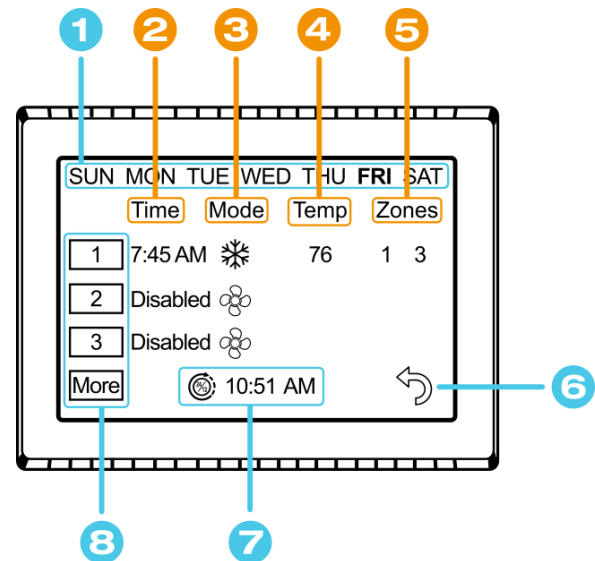
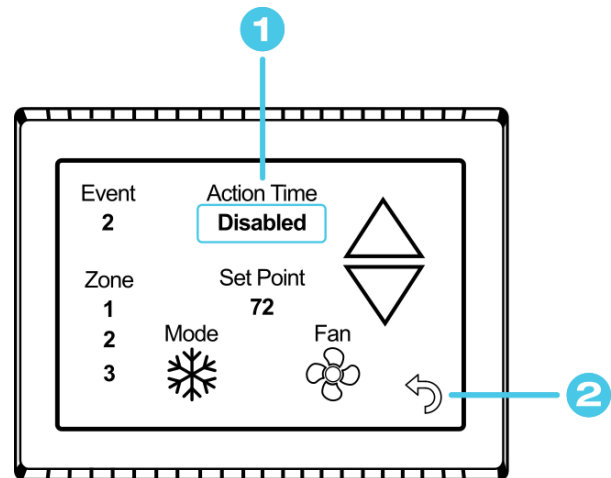
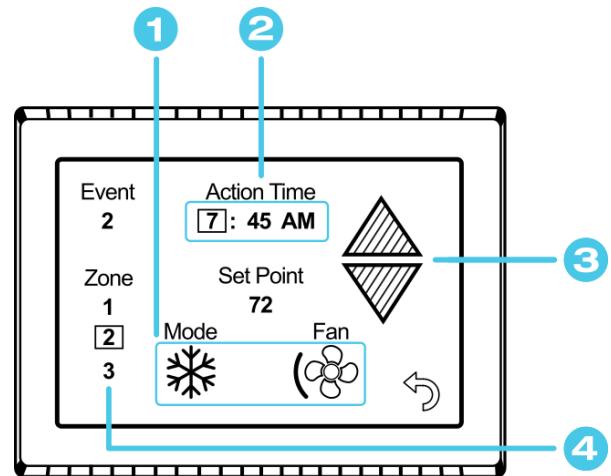

Figure 8 - Main Schedule Screen
Figure 9 - Schedule Edit Screen (Disabled Event)
Figure 10 - Schedule Edit Screen (Enabled Event)
The schedule supports 7 day per week scheduling of events. Events can include changes to the set point or mode of operation for one or more zones. Each numbered row is an event that can be configured. Figure 8 shows the main schedule screen. Tap the “Schedule” button from the Settings Screens to enter.
Events are numbered 1 to 6 along the left side of the screen. Each row is a numbered event. Tap an event to edit it and advance to the schedule edit screen, shown in Figure 9. Tap “More” to see events 4, 5, and 6.
Figure 9 shows the edit screen when an event is tapped as shown in *(8) Scheduled Events* of *Figure 8 - Main Schedule Screen*. The event time on the main schedule screen and Action Time in the edit schedule screen will show disabled until a time is set. Tap “Disabled” (1) at the top of the screen to show a gray box around the Action Time to select it. The up and down arrows change to full color once a selection is made. Use the arrows to make a change to what is selected. Use the back arrow (2) to save any changes and leave the screen.
Figure 10 shows the schedule edit screen once a valid time is set for the event.
1. Tap the edit schedule button as described in the *Schedule – Edit, Enable or Disable* section in settings to enter the main schedule screen, shown by *Figure 8*.
2. Ensure that a valid *(7) System Time* is shown. Tap the day you want to set up a schedule for, then the event you want to edit, all shown by *Figure 8*. Tapping the event will take you to the edit schedule screen, shown by *Figure 9* and *Figure 10*.
5. Tap the back button once again to return to the settings screen. Activate the schedule by pressing the schedule button with the “Enabled/Disabled” subtext as described in the *Schedule – Edit, Enable or Disable* section in settings. When enabled, it may also be noted on the *(9) Info Screen*, under the *Main Screen*.